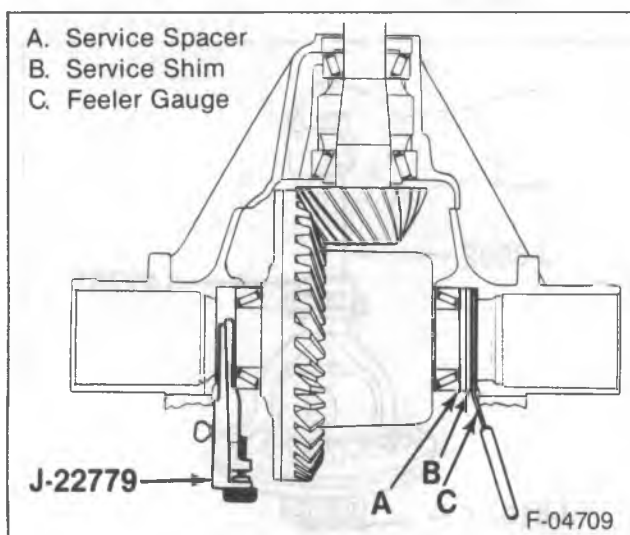

Figure 21—Measuring Side Bearing Shim Requirements
5. Move the tool back and forth in the bore while turning the adjusting nut to the right until a noticeable drag is produced (figure 21).
6. Install a service spacer (9) and a service shim (9) between the right bearing cup and the axle housing.